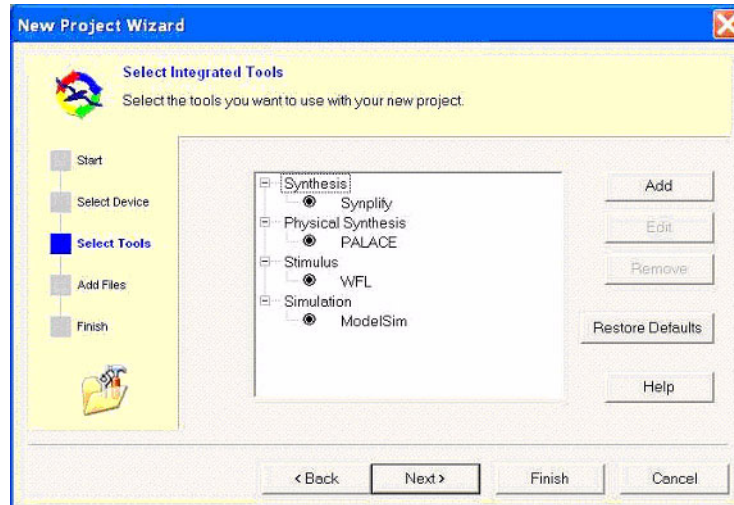

Figure 7-4. Selected Integrated Tools in New Project Wizard (Libero IDE)
- Click **Next** to select **Integrated Tools** in the **New Project Wizard** (Figure 7-4).